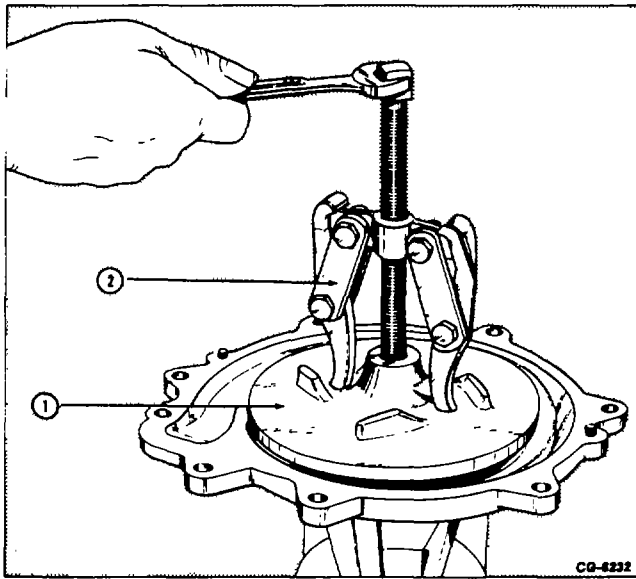

Figure 5 - Removing Impeller
3. Pull off the impeller (1, Fig. 5) using the two 1/2 inch holes provided as shown.
NOTE: If the impeller is equipped with 1/4 inch holes, enlarge them to 1/2 inch to accept a small puller (2, Fig. 5).